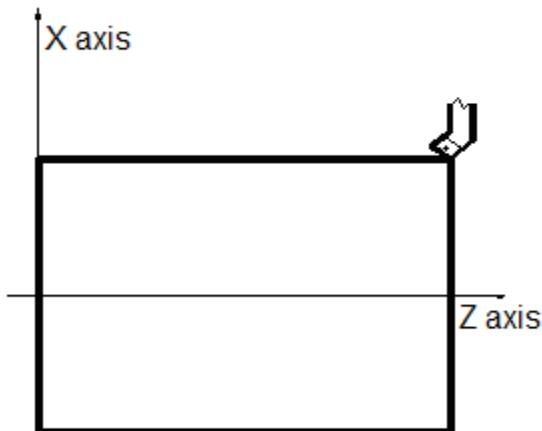
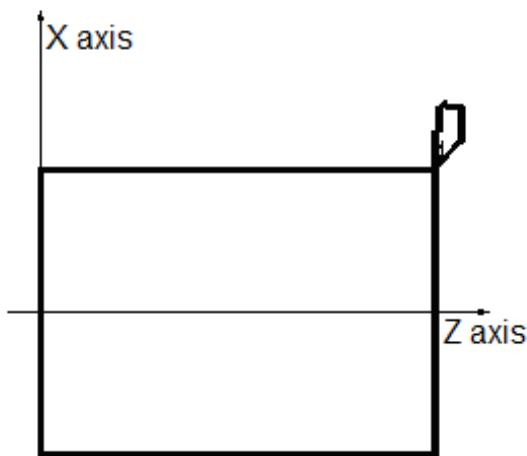

Fig.7-6
Fig.7-7
(1) Firstly, confirm whether the tool compensation value is zero or not in X and Z directions; if it is not zero, all cutter compensation values of all tool numbers must be cleared.
(2) The offset number of the tool is 00 (such as T0100, T0300);
(3) Select any tool (normally, the 1st tool during machining is taken as the reference tool)
(4) The tool nose of the reference tool is positioned in some point (tool setting point), which is shown as Fig.7-6:
(5) In MDI mode, on the program status page, the workpiece coordinate system is set by G50 X\_Z\_ command;
(6) The coordinate values of the relative coordinate (U, W) are cleared;
(7) After the tool is moved into the safe position, and the other tool is selected and moved into the tool setting position, which is shown as Fig.7-7:
(8) On the setting page set, press software key to enter the tool offset